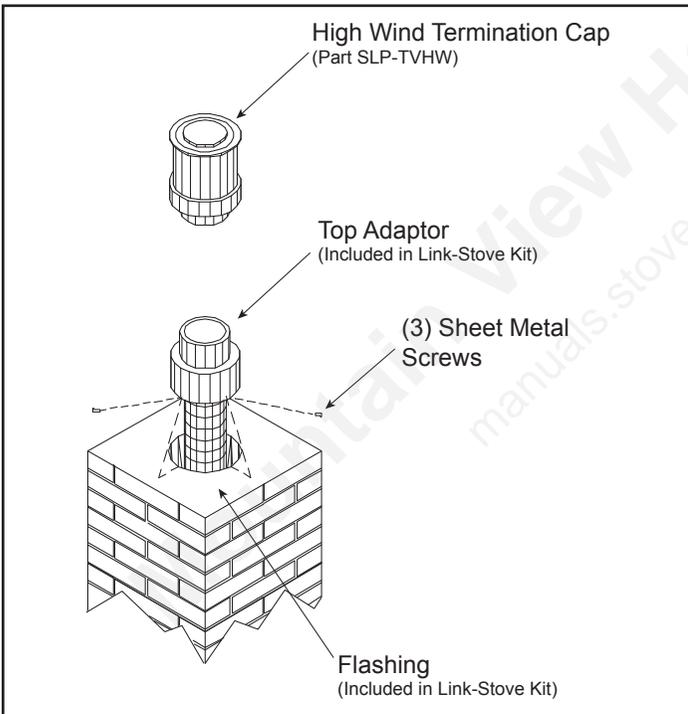

Figure 4.28
8. Secure the top adapter to the flashing. Use three sheet metal screws through the side of the top adapter into the flange on the flashing See Figure 4.28. Twist lock the high wind termination cap on to the top adapter.